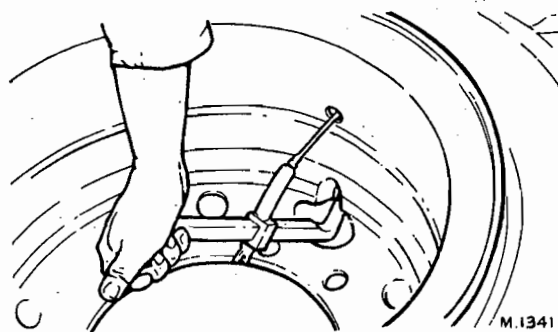

FIG. 3. REMOVING VALVE STEM
3. Invert the wheel assembly and fit a dome cap to the valve stem. Using Dunlop tool VAT/1 or Goodyear 3BT/2 insert the hook end into the lock ring groove, adjust the tool to suit position of the valve aperture and insert the valve stem into the recessed nose of the valve removal tool, Fig. 3.